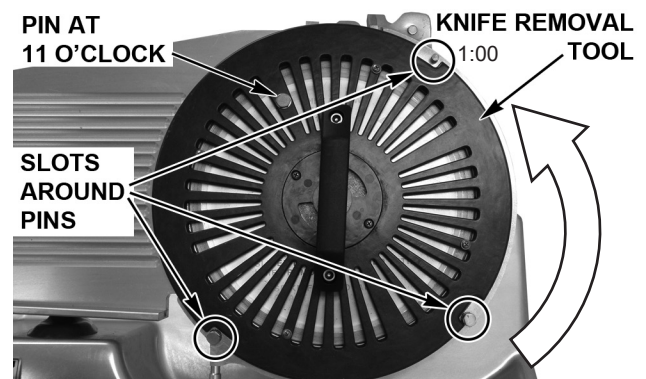

Fig. 13
- Place the Knife Removal Tool on the Knife (Fig. 13). The three slots on the Tool fit the three Pins on the Ring Guard (Fig. 13).